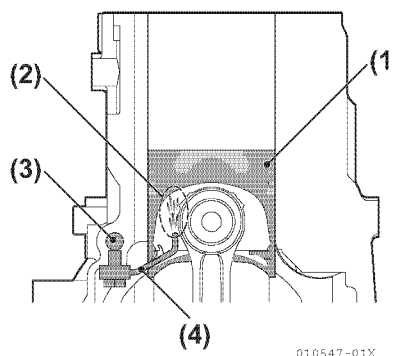

Figure 8-18
1. Check the nozzle end hole (diameter 1.8 mm [0.071 in.]) for dust or other foreign matter (Figure 8-18).